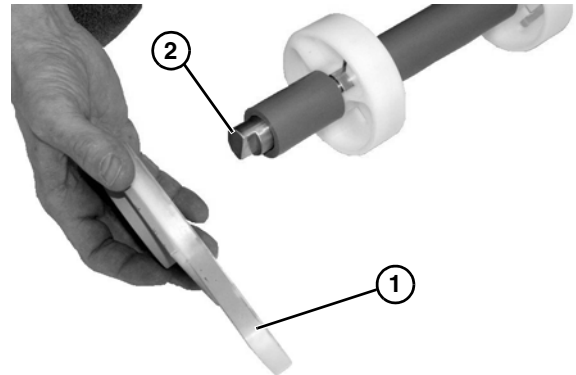

Figure 44
4. Slide off idler head plate (Figure 44, item 1) from shaft (Figure 44, item 2).